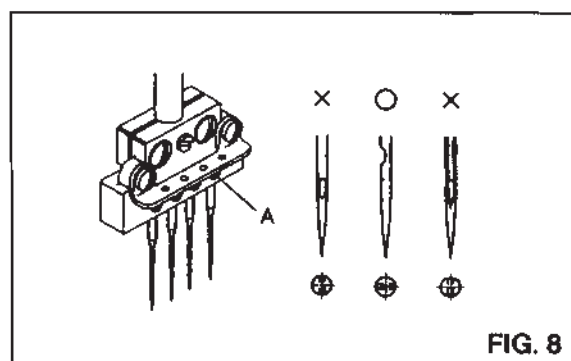

FIG. 8
1. Loosen Screw (A) and take out the used needle. (Fig. 8)